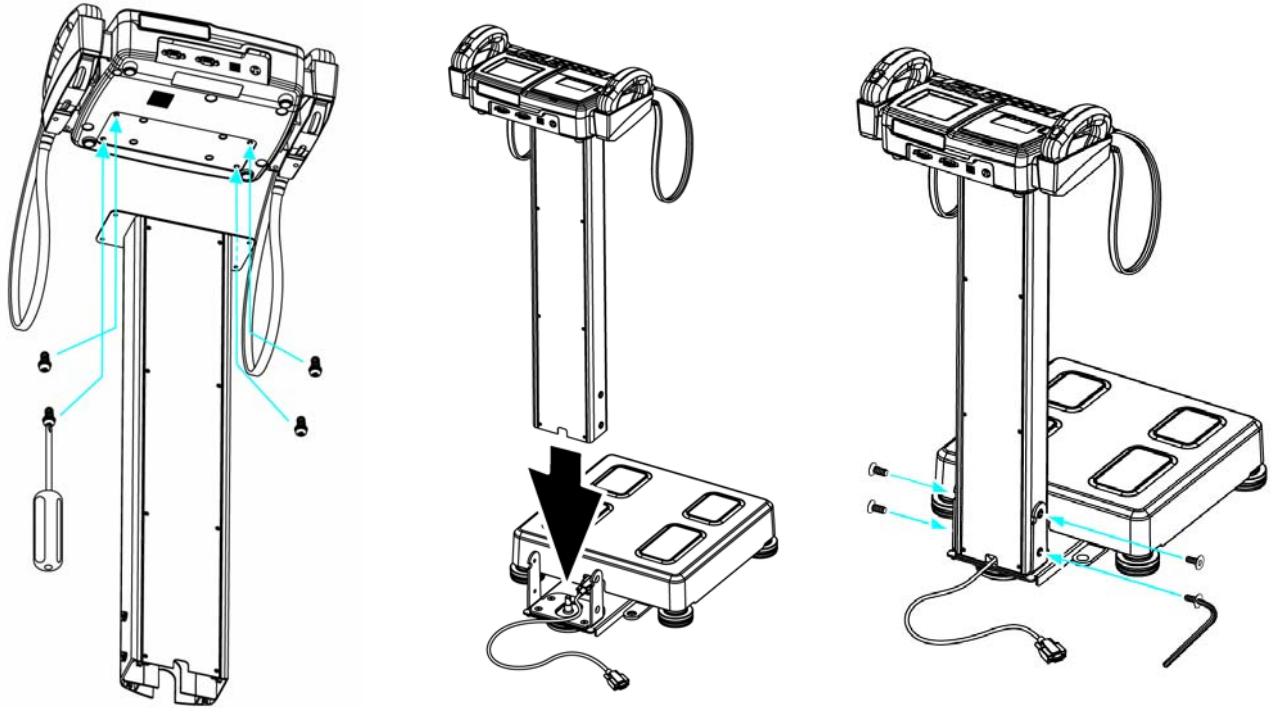

Figure 5. Column Attachment
4. Attach the digital display to the column using a screwdriver to attach the display with four bolts as shown on the left hand side of Figure 5.
6. Insert the column into the bracket, making sure that the cable is out of the column as shown in the center illustration of Figure 5.
7. Insert plate bolts into the holes as shown in the right hand picture of Figure 5. Fasten the bolts using a 4 mm Allen wrench (included).